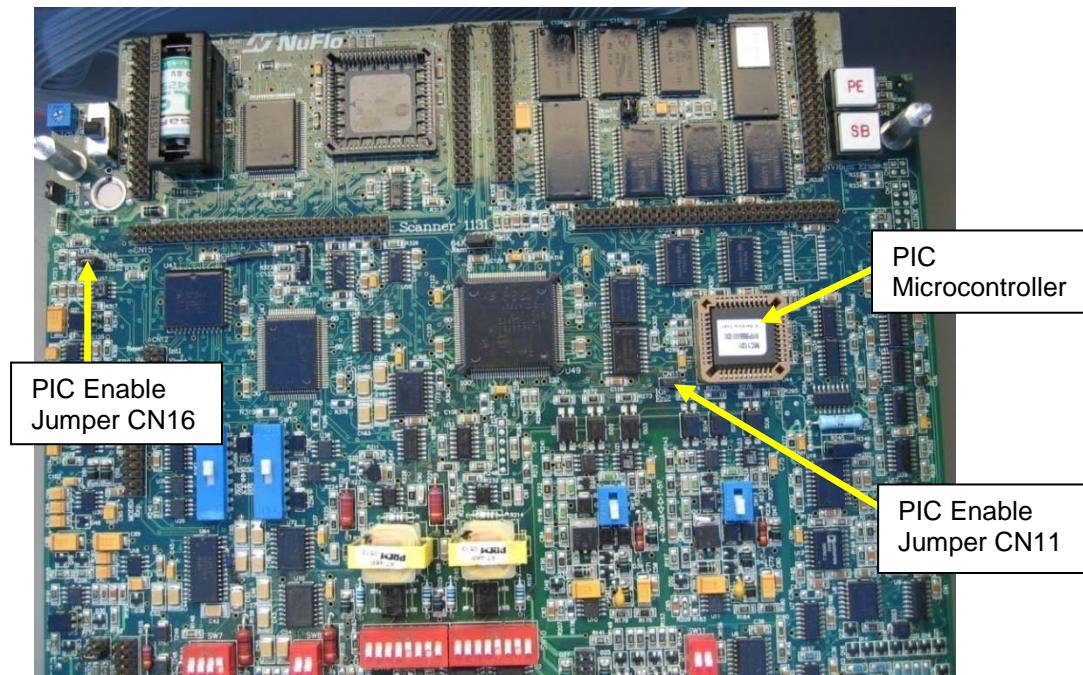

Figure 2.4—Microcontroller jumper locations
2. Remove the two PIC enable jumpers from the main board (Figure 2.4).